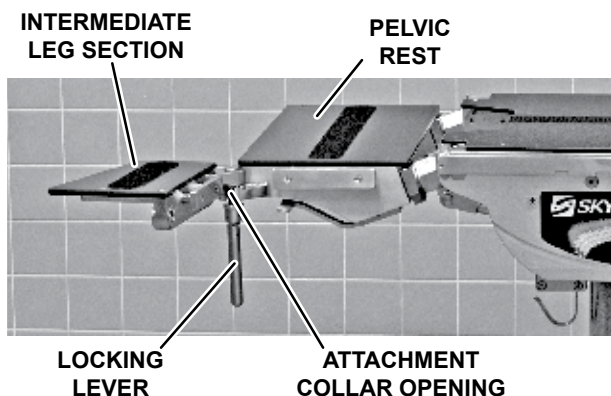

Figure 5. Intermediate Leg Section Attachment
- Attach the intermediate leg section to the pelvic rest by aligning it 90° to the attachment collar opening on the pelvic rest receiving collar (Figure 5).